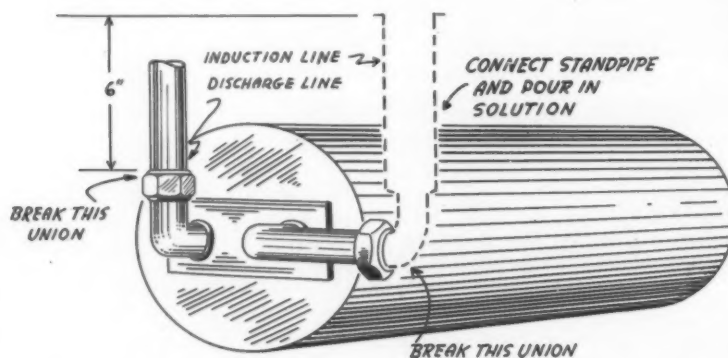

Figure 1. Method of connecting standpipe to induction line of condenser.
2. Connect standpipes as shown in Figure 1.